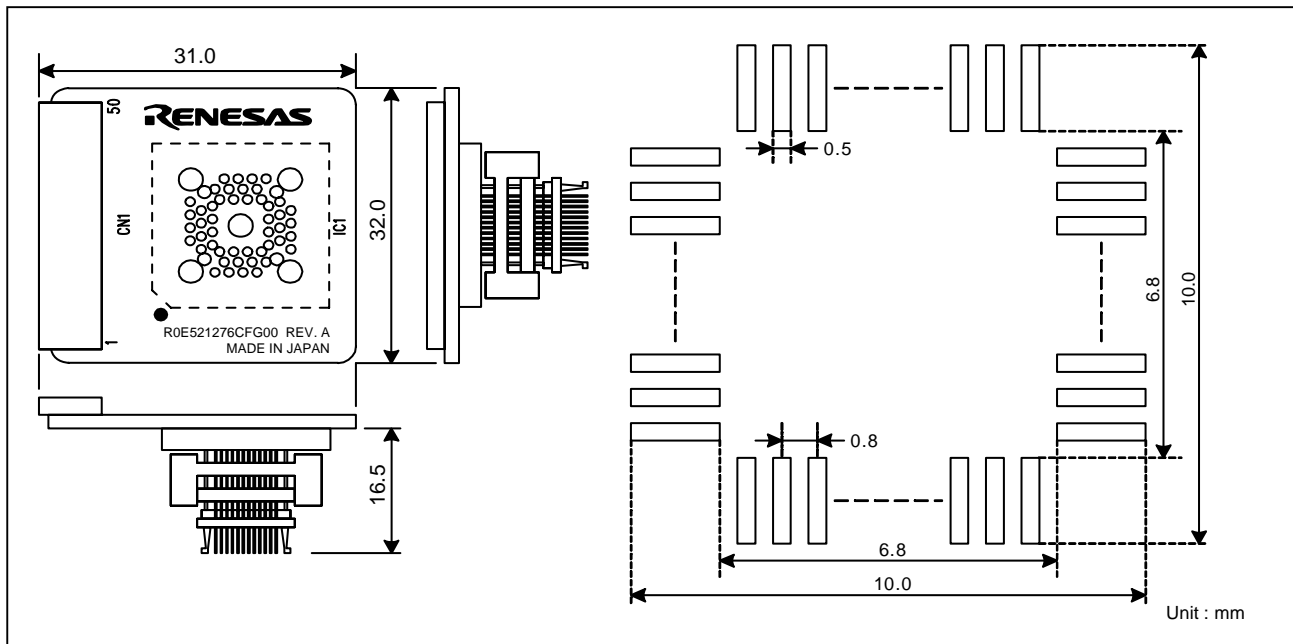

Figure 4 External dimensions and a sample foot pattern of the R0E521276CFG00
6. External Dimensions and a Sample Foot Pattern (See Figure 4)